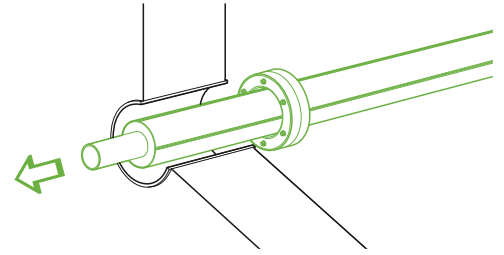

Fig. B6.5
5. Feed the pipe with the Wall Compression Seal in place through the hole in the wall (Fig. B6.5).